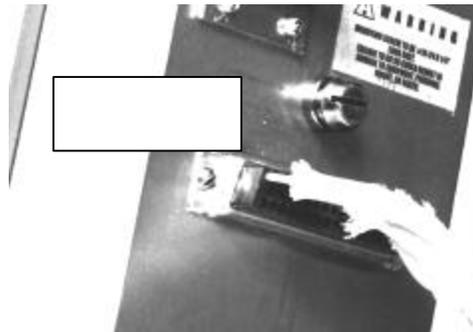

Figure 18. Harness connector attached to the trip unit.
3. Insert the 50-pin female connector on the wiring harness into the trip unit connector through the rear of the mounting plate. Secure to the mounting plate with the two small screws provided, as shown in Figure 18.